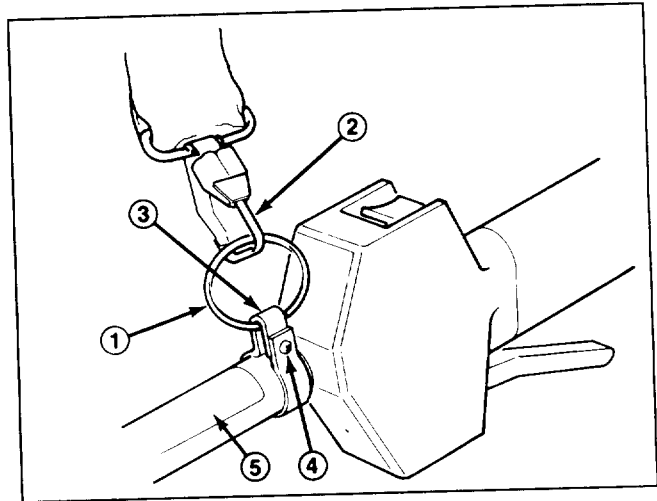

Figure 2
1. Insert ring into loop of clamp and install clamp over drive shaft tube between R.H. and L.H. hand-grips just ahead of throttle trigger housing as shown. DO NOT POSITION CLAMP ON TOP OF LABELS. Bend both ends of clamp together (Fig. 2).
1. Unsnap harness hook from ring (Fig. 2).